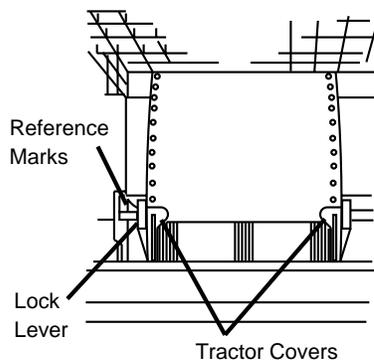

Figure 6-13. Model 602 Paper Edge Reference Marks
- 11.7. Close the tractor covers, and adjust the left tractor to properly position the edge of the paper. See Figure 6-13.